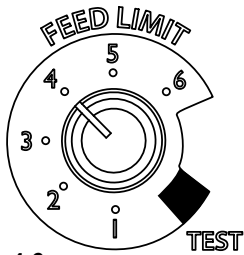
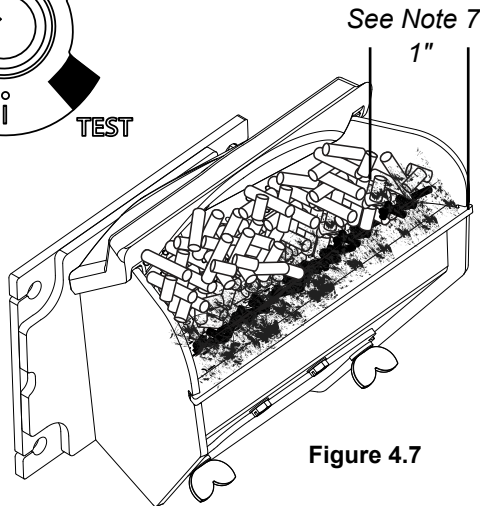

Figure 4.6
Figure 4.7
4. Adjust Feed Rate. If this is your first fire or you are trying different pellets, set the feed limit to #4, Figure 4.6 This is a conservative number and will probably need to be increased. After you know a feed rate setting that works well, use that setting. Remember, if your feed rate is too high you may waste fuel.
7. Setting the feed limit # for maximum burn: With the unit burning in "AUTO", turn to "Stove Mode" and put the fan on "H". Set the Temperature Dial to #7. Allow the unit to burn for about 30 minutes and check ash on front of burn pot. Figure 4.7. If the ash line is larger than 1", turn the feed limit from #4 to #5. Allow another 30 minutes of burn time and check again. If, at #6 setting, a 1" or less ash bed is not obtainable, it is not a problem. The 1" ash bed is only at maximum burn rate and during normal operation, the ash bed will be larger.
High output is determined by the feed rate setting. This setting, generally on #4, can be increased if higher burn rates are necessary (Figure 4.6). The unit's maximum burn rate should not create less than 1" of ash on the burn pot front edge (Figure 4.7). Overfeeding is not a safety concern, but fuel may be wasted if unburned pellets fall into the ash pan.
This allows for automatic ignition upon start-up only. The unit can then be set at any desired setting. The heat output and fuel consumption will remain constant regardless of room temperature. The unit's maximum feed rate should not create less than 1" of ash on the burn pot front edge. Figure 4.7.